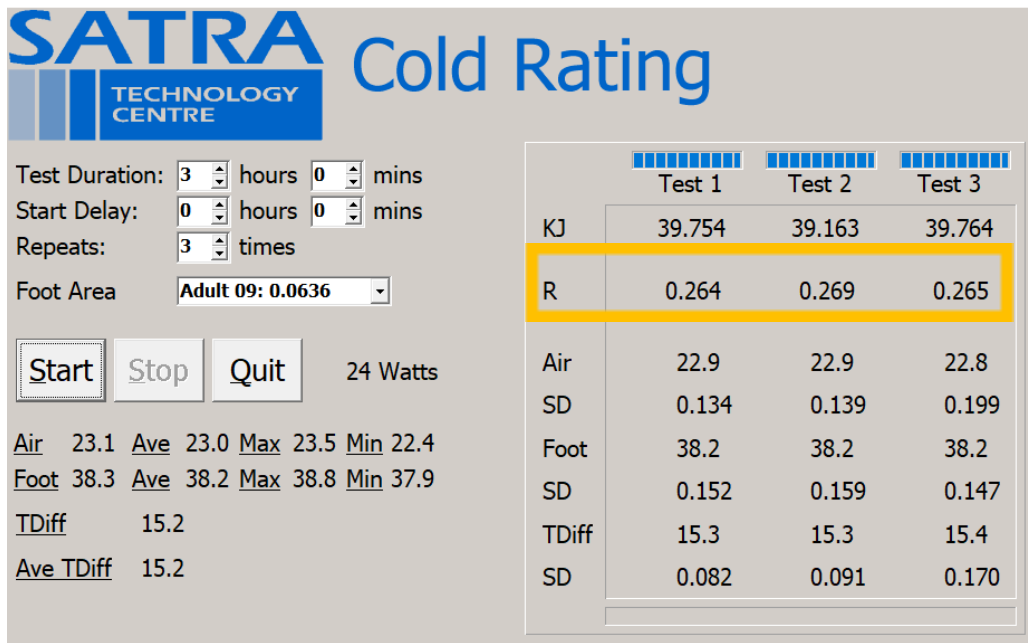

Figure 3: Software with test results (R) for each 3 tests.
- After the 3 tests are finished, calculate the mean thermal resistance value from the 3 R-values given by the software (see Figure 3).